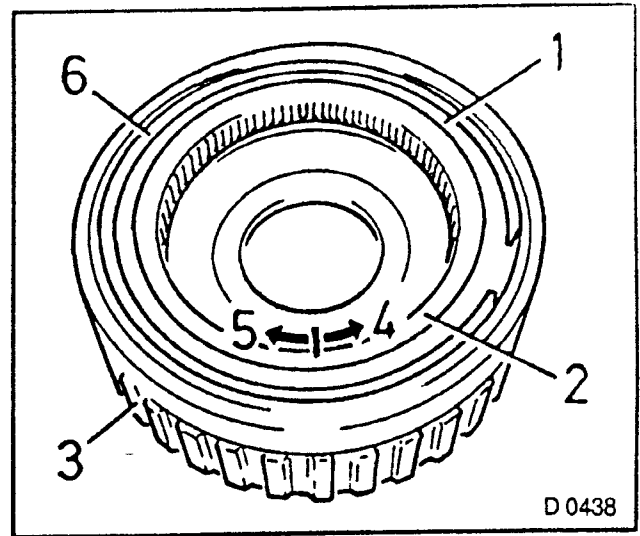

Fig. 377
2. Set aside as installed bearing ring, thrust bearing (1), freewheel inner race (2).
3. Retaining ring (3) and Fig. 377, Item 6, Freewheel F2 (4), Friction washer (5).